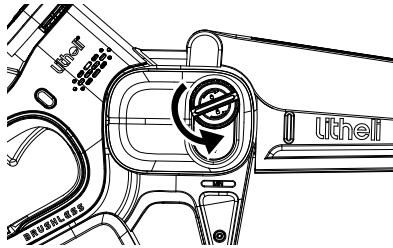

Fig. 9
2. Clean the area around the oil tank cap with a cloth and unscrew the cap by turning it counterclockwise. (Fig. 9)